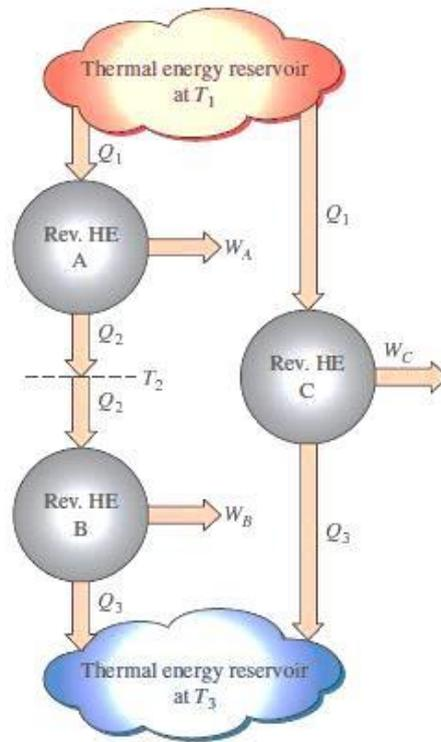

Fig.3.25 - The arrangement of heat engines used to develop the thermodynamic temperature scale.
- ▶ As shown in Fig.3.25 - The arrangement of heat engines used to develop the thermodynamic temperature scale. Both processes are internally reversible, since both take place isothermally and both pass through exactly the same equilibrium states.
- ▶ Consider two reversible engines E_1 is supplied with Q_1 amount of heat from the high temperature reservoir at T_1 and rejects Q_2 amount of heat at low temperature reservoir T_2 which is directly receives by reversible heat engine E_2 which further rejects Q_3 to the low temperature reservoir at T_3 as shown in Fig.3.25 - The arrangement of heat engines used to develop the thermodynamic temperature scale.